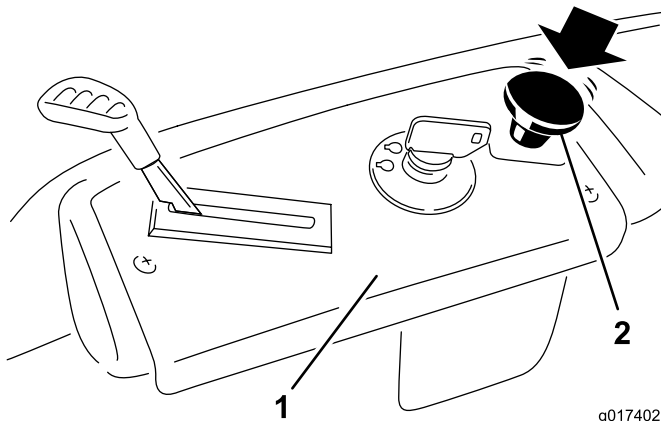

Figure 12
2. Disengage the blades by moving the blade-control switch to Off (Figure 12).